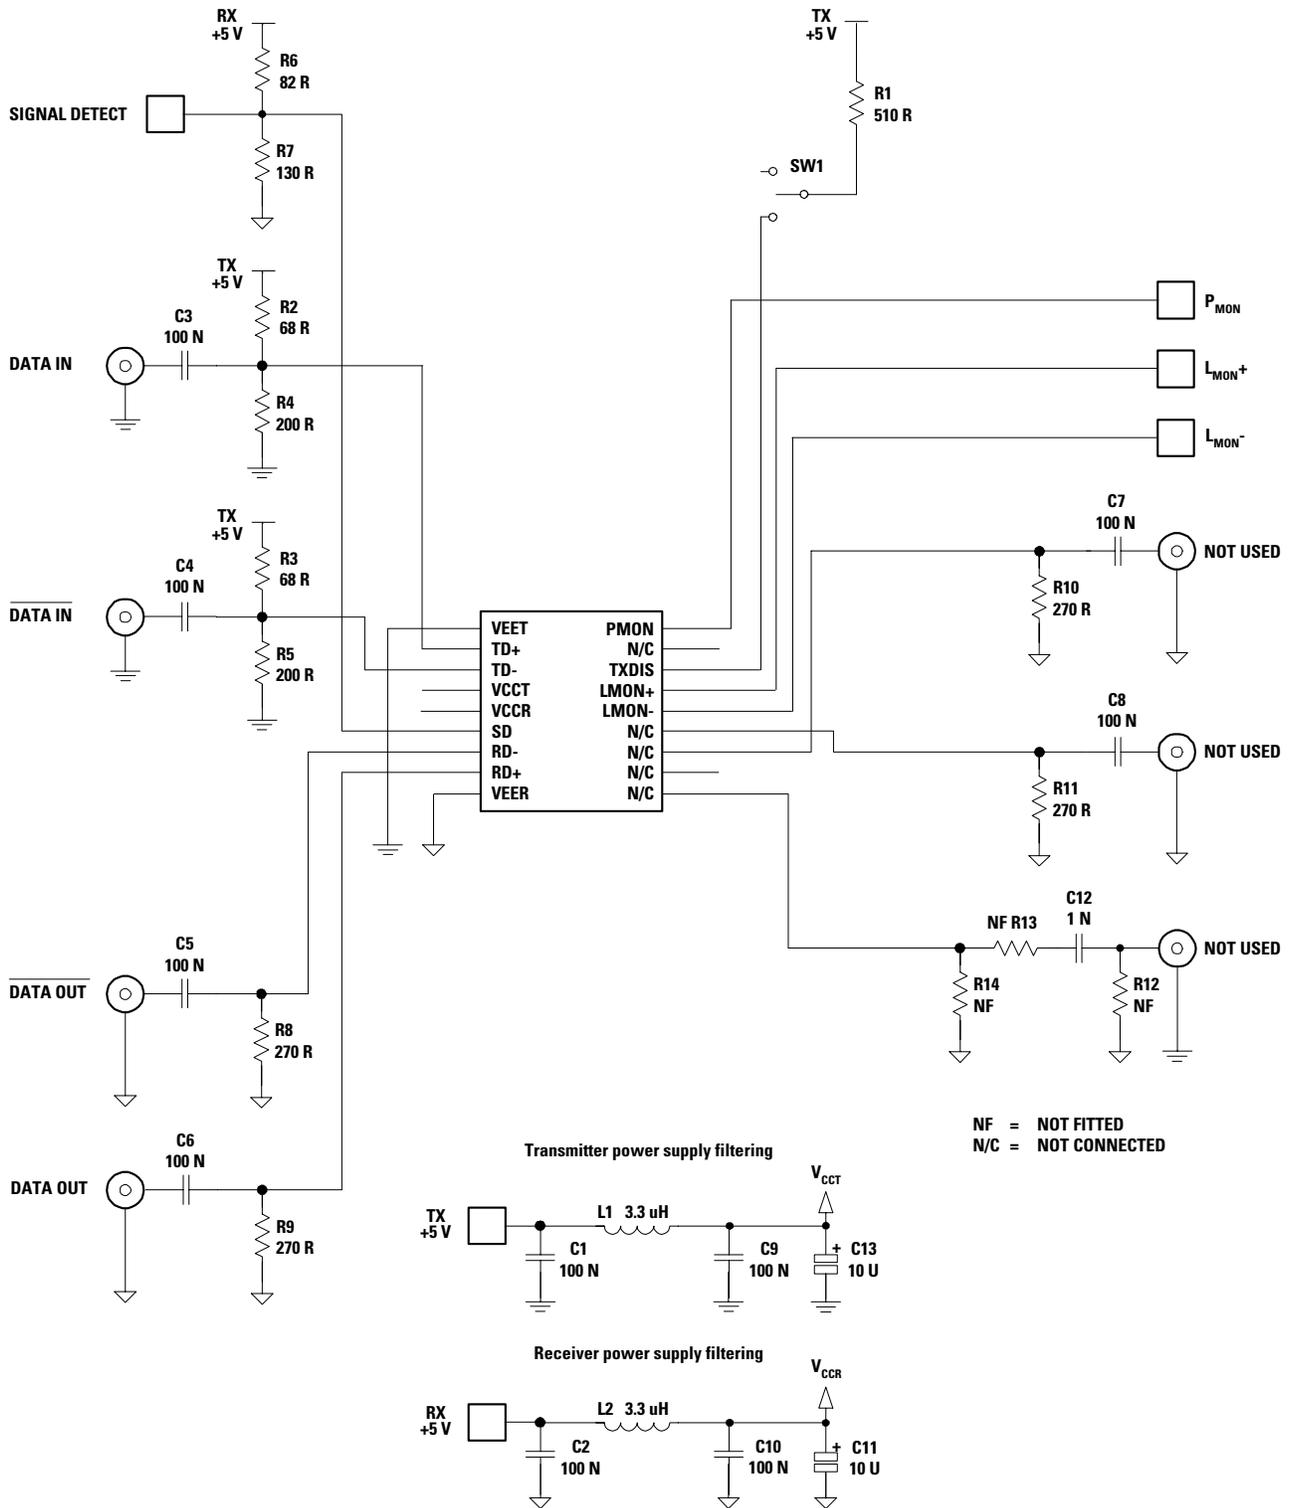

Figure 11. HFCT-5000 Evaluation Board Schematic
Figure 11 shows the HFCT-5000 Evaluation Board Schematic layout. Table 2 gives the modules pin out, functionality and connection information.
**Table 2. Pin Out Table (Refer to Figure 11)**